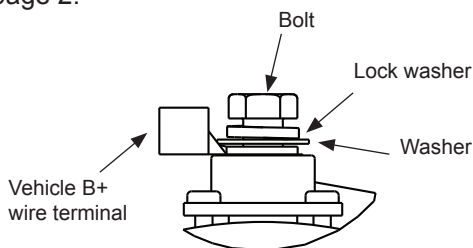
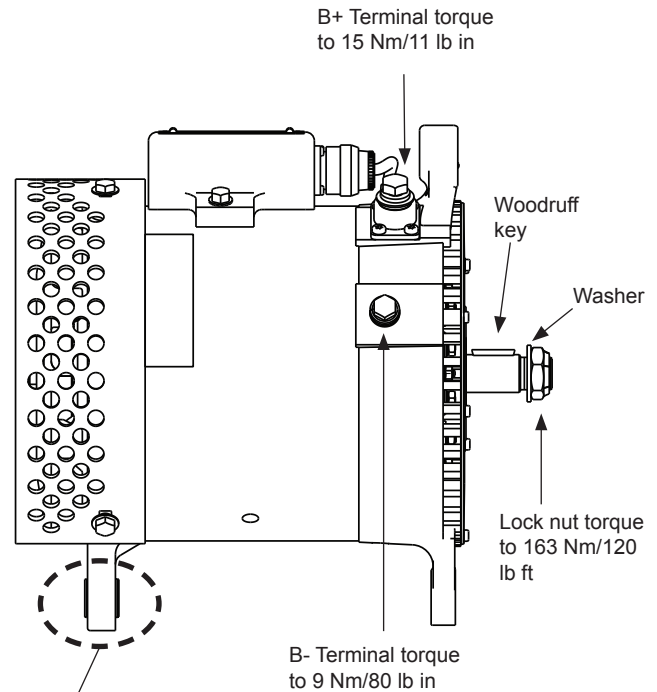

Figure 2: B+ Terminal Hardware Stacking Order
Figure 1: N1255 Alternator Installation
3. Install pulley, disc spring washer, and lock nut on shaft in that order. See Figure 1. Torque pulley nut to 163 Nm/120 lb. ft.
6. Connect vehicle B+ cable to alternator B+ terminal as shown in Figure 1. Install hardware in stacking order shown in Figure 2. Torque B+ terminal hardware to 15 Nm/11 lb. in.
7. Connect vehicle B- cable to alternator B- terminal. See Figure 1. Install cable hardware in stacking order shown in Figure 3. Torque B- terminal bolts to 9 Nm/80 lb. in.